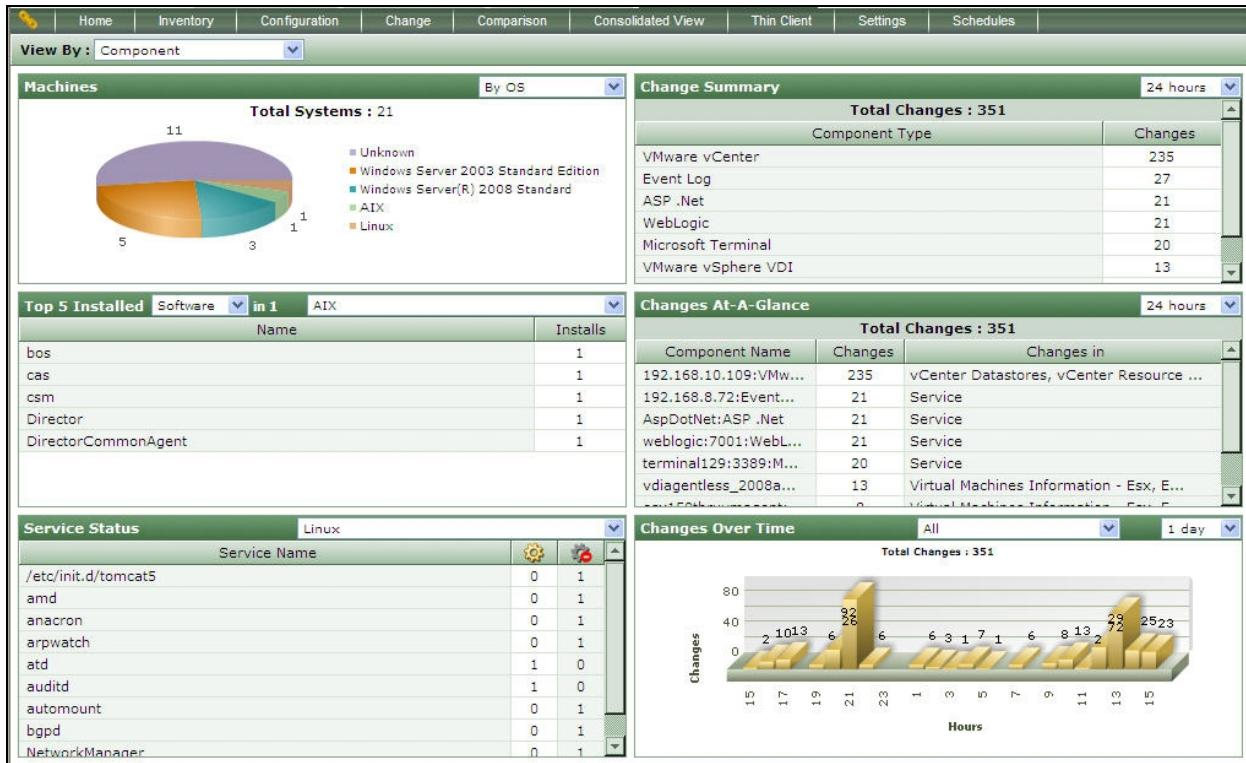

Figure 1.1: Home page of configuration management
1. The first section of the page provides the details of **Machines** or hosts that are being monitored in the target environment. By default, this section displays a pie chart depicting the distribution of machines on the basis of the operating systems available in the environment as depicted in Figure 1.1. Accordingly, the **By OS** option is chosen by default from the drop-down list at the right, top corner of this section. Using the pie chart, you can determine the type of operating systems that are currently in use in the environment, and the number of installations of each operating system. This information enables administrators to efficiently track the usage of OS licenses across the environment and plan the purchase of additional licenses (if required). To quickly identify the machines on which a particular OS has been installed, simply click on a particular slice in the pie chart; this will lead you to the **INVENTORY BY OPERATING SYSTEM** page that provides a version-wise list of machines that are currently using the corresponding